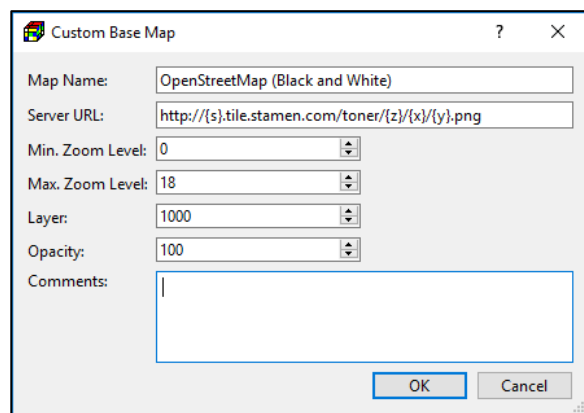

Figure 8. The Custom Base Map dialog box
2. **Add**: Click this button to open the Custom Base Map dialog box (Figure 8) that allows you to add a tiled-map service.